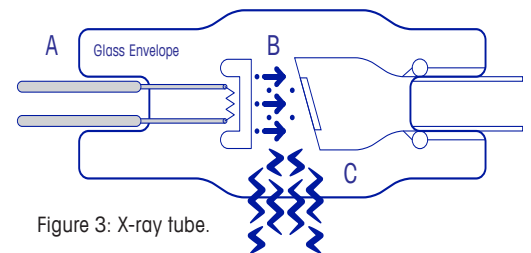

Figure 3: X-ray tube.
Modern x-ray tubes (Figure 3) consists of a glass envelope, a filament cathode, a copper anode, and a tungsten target. The cathode (A) which is the source of the electrons is a tungsten filament heated to incandescence by an electrical current. The electrons are accelerated to the target (B) by applying a high voltage between the anode (C) and the cathode. When the electrons hit the tungsten target mounted inside the copper anode, they decelerate rapidly and this deceleration creates the x-ray emissions.